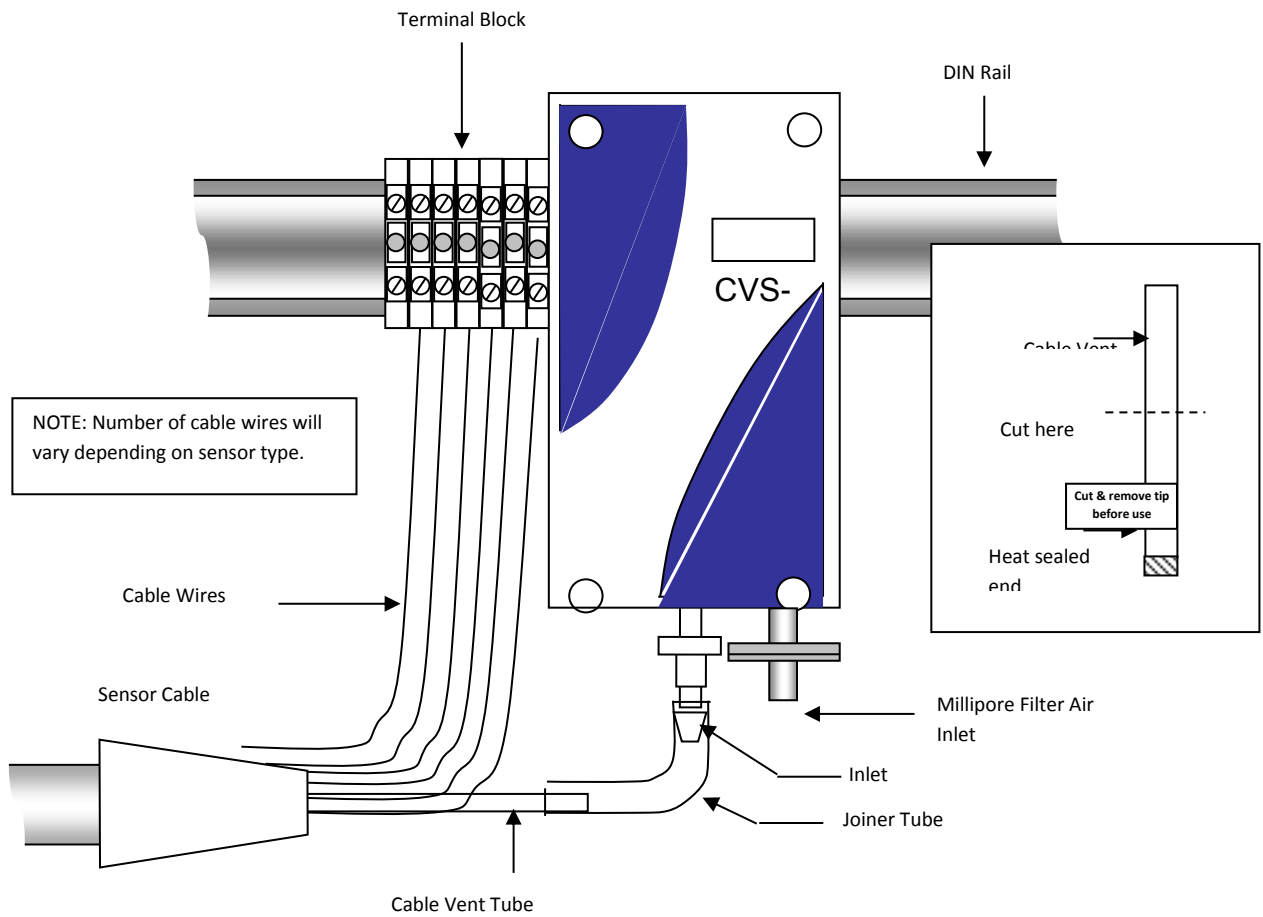

Figure 1. Single Installation, (Suggestion Only)
The unit is fitted with a DIN clip for fitting to standard DIN rail installations. Sensor cable wires are terminated in suitable DIN rail screw terminal blocks available from electrical suppliers. A vent tube joiner (supplied) is fitted between the CVS-001 and the cable vent line. See Figure 1.
Remove the seal by cutting the end of the joiner tube with a sharp knife prior to connection. See inset, figure 1.
1. Cut vent tube below tag. See Figure 1.